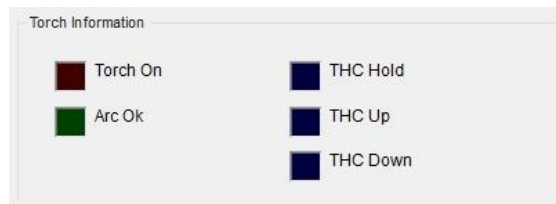

Fig 61 Torch Information
1. The Torch Information pane (Fig 61) displays the following: